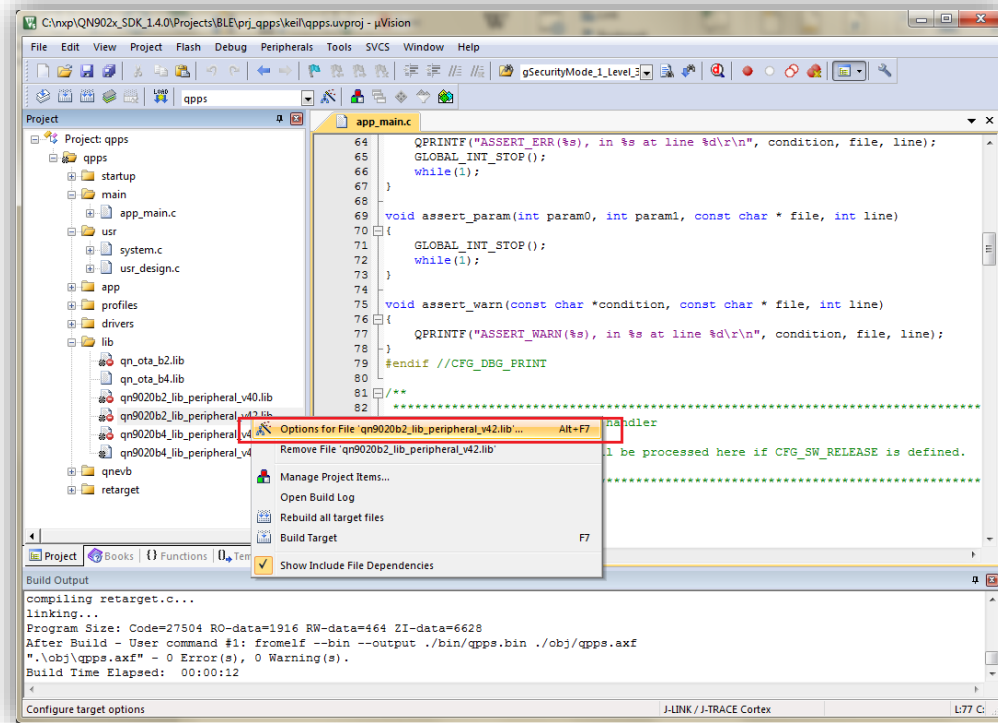

Figure 2. Keil file Option
- Step1: Right click on the selected library file and, select the option item referring as in Figure 2.